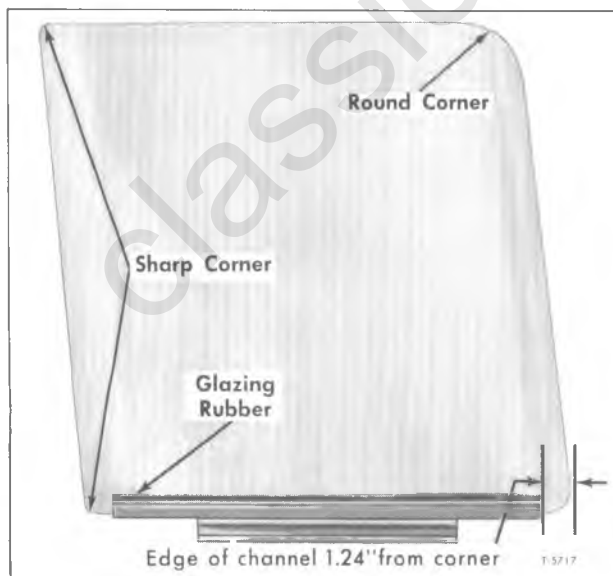

Figure 21—Door Glass Assembly (Right Side Shown)
4. Position glazing rubber filler (soapstone side away from glass) on bottom edge of glass 1.24-inch from lower corner as shown in figure 21.
5. Carefully position edge of glass regulator channel 1.24-inch from lower right corner (fig. 21) and then press channel over glass and glazing